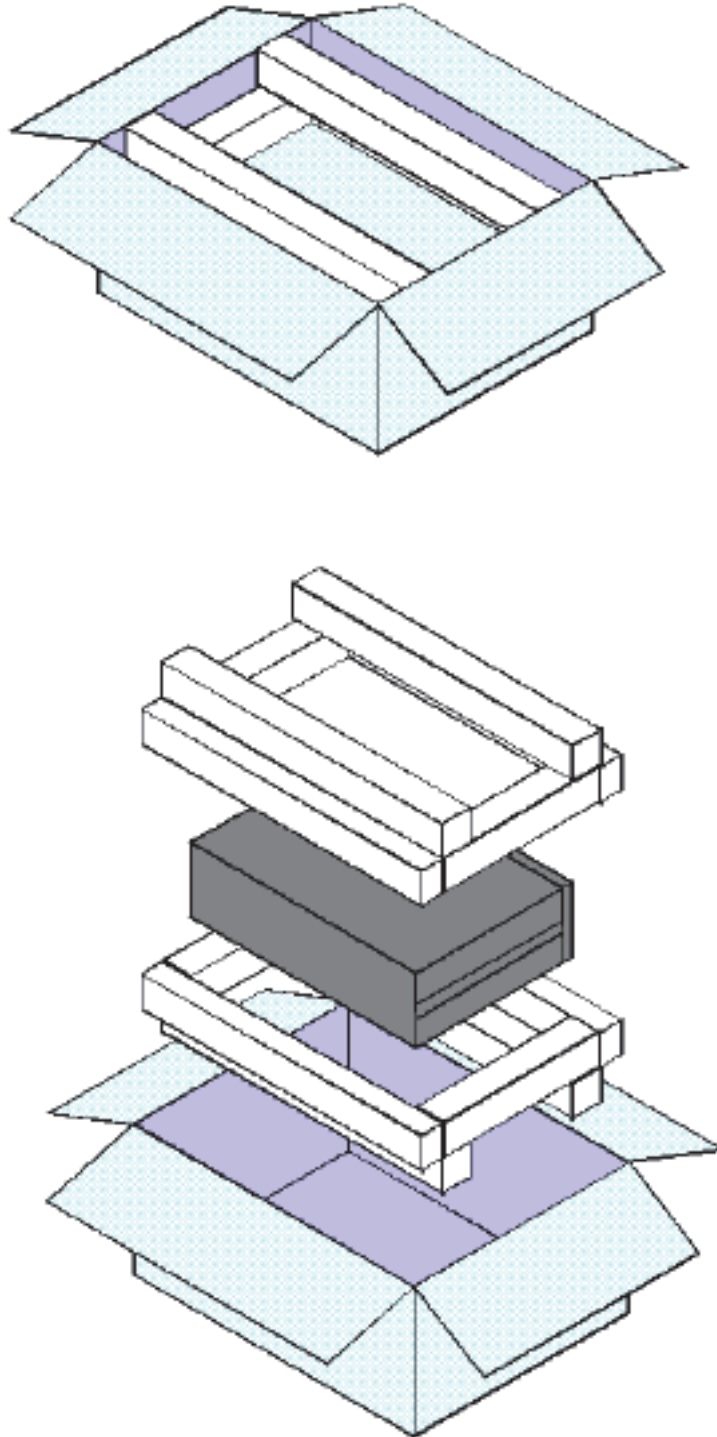

Figure 7-1. Packing the RUSKA 7250
4. Insert one foam cradle from the original shipment onto the floor of the box. (The original foam cradles are of the same type of construction and are completely interchangeable.) If the foam cradles are not available, cover the bottom and sides with no less than 3 inches (7.6 cm) of N-95 foam strips. Arrange the strips in the configuration illustrated in Figure 7-1.